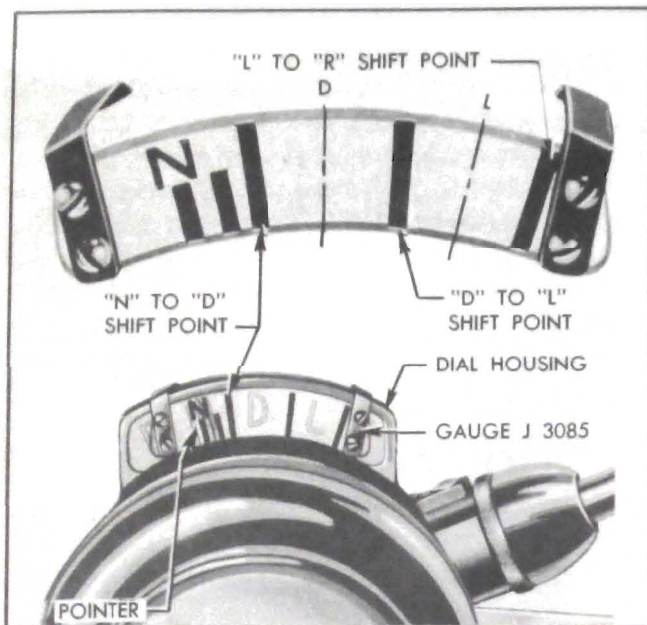

Figure 4-43—Linkage Adjustment Gauge J 3085 Set for Checking Shift Point
8. When spring travel is correct pull shift rod forward until stop is felt then adjust shift rod clevis until clevis pin will just enter hole in shift idler lever, *with control detent firmly engaged in Parking (P) position*. Lengthen shift rod by unscrewing clevis 3 complete turns, then temporarily connect rod to idler lever with clevis pin.
9. Place shift control lever in Neutral (N) position making sure that detent is firmly engaged, then install Shift Control Linkage Adjustment Gauge J 3085 on dial housing with the line under "N" centered on the dial pointer. See figure 4-43.
10. *With transmission warmed up and engine idling at approximately 600 RPM, slowly move control lever from Neutral (N) to Drive (D) position. The clutch should engage, as indicated by an immediate decrease in engine speed when the tip of dial pointer is behind the long gauge mark located midway between "N" and "D" on speed ratio dial. See figure 4-43. The width of this mark provides for the allowable variations in shift point.*
11. Slowly move control lever from Drive (D) position to Neutral (N) position. Clutch
12. If points of clutch engagement and disengagement are not as specified adjust shift rod clevis (Steps 6, 7, 8) to obtain required setting, being careful not to change clevis so much that parking lock fails to hold or parking lock pawl contacts ratchet wheel in Neutral (N).
13. Check operation in Low (L) and Reverse (R). Low and Reverse should be obtained when detents are engaged and the shift points should occur when tip of dial pointer is behind the corresponding shift point marks on Gauge J 3085 shown in figure 4-43. If these conditions are not correct, the transmission shift lever may be bent, or the valve operating lever inside the rear bearing retainer is loose or improperly seated on the shaft.